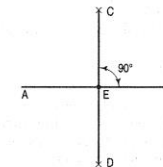

FIG. 5-1
**Problem 5-1.** To bisect a given straight line (fig. 5-1).